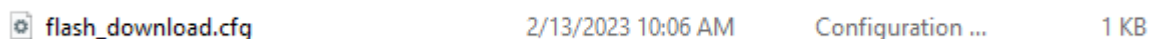

Figure 18: Firmware Selection
Step 9: Next, click  to choose the firmware upgrade package. And then choose the cfg file within the firmware upgrade package as shown in the Figure 18: Firmware Selection.